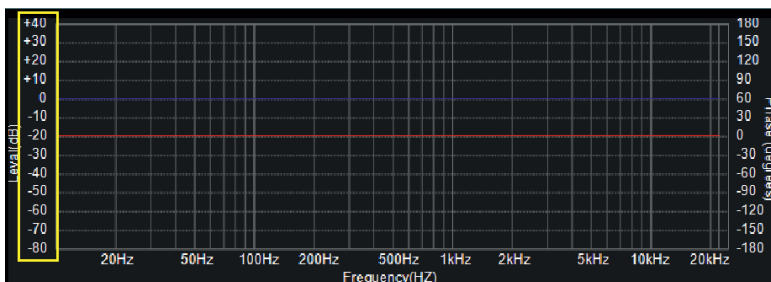

Figure 6.7
- ⑥: Loaded or clipped speaker magnitude line and phase line display area.
- ⑦: Y-Axis Scale. Dynamic range: -80dB to +40dB (as shown in Figure 6.7)